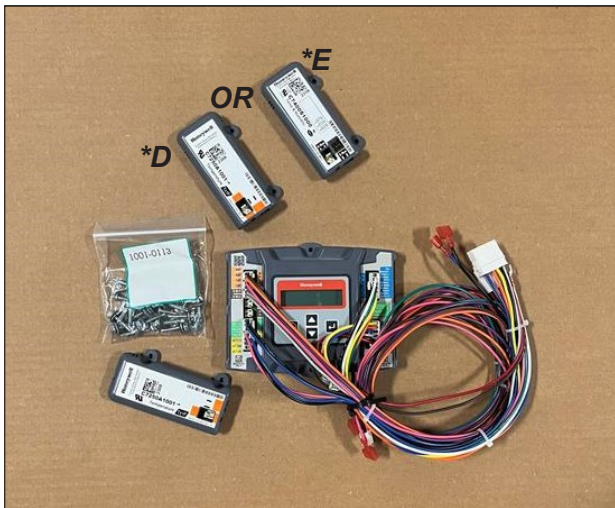

Fig. 4 - Connect Economizer Harness to Unit PL6 Economizer Harness
Step 7: Remove and save the 12-pin jumper plug from the unit economizer harness – located in the upper left corner of the unit. Insert the PL6 plug to the economizer actuator, then Insert the economizer plug into the unit wiring harness. See **Figure 4**